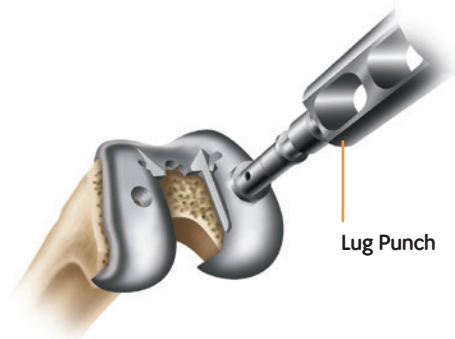

Figure 27
- 3 For cruciate-retaining femorals, prepare the femoral lug holes through the femoral trial with the femoral lug punch (Figure 27).